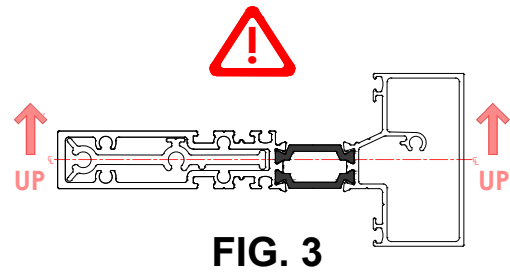

FIG. 3
- ENSURE horizontal mullions are oriented and assembled with gutter facing upward. **See FIG 3**